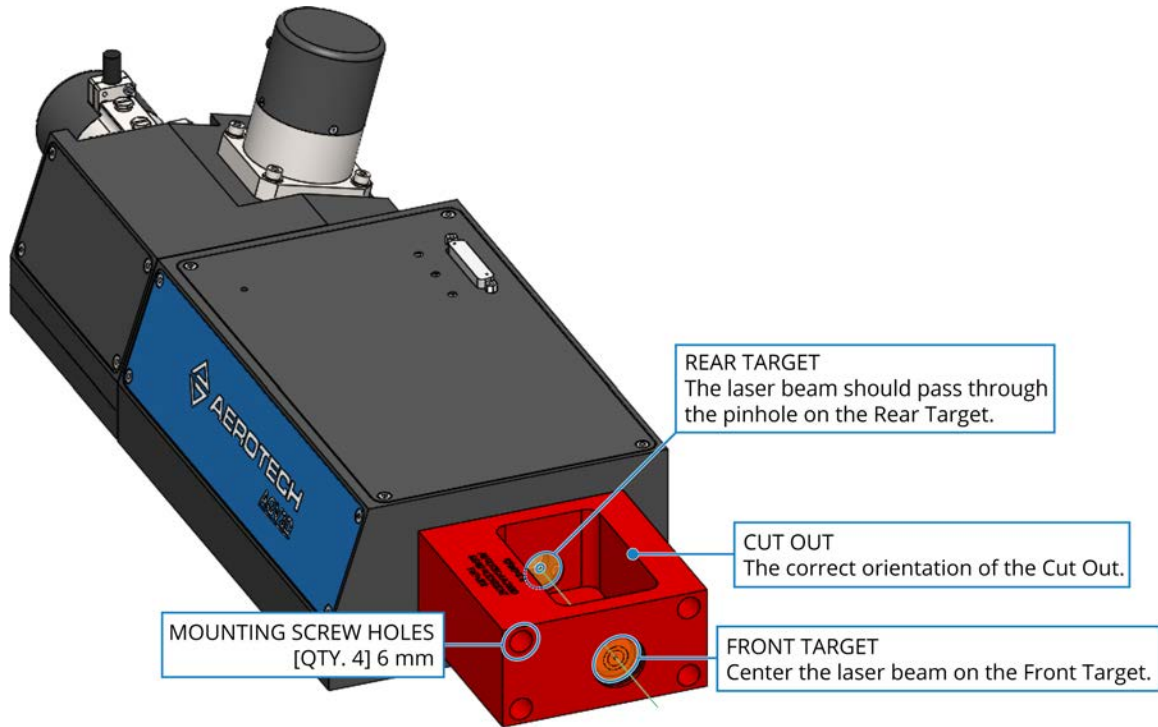

Figure 2-6: Alignment Fixture
2. Bolt the laser alignment fixture to the front face of the AGV3D (refer to Figure 2-6).